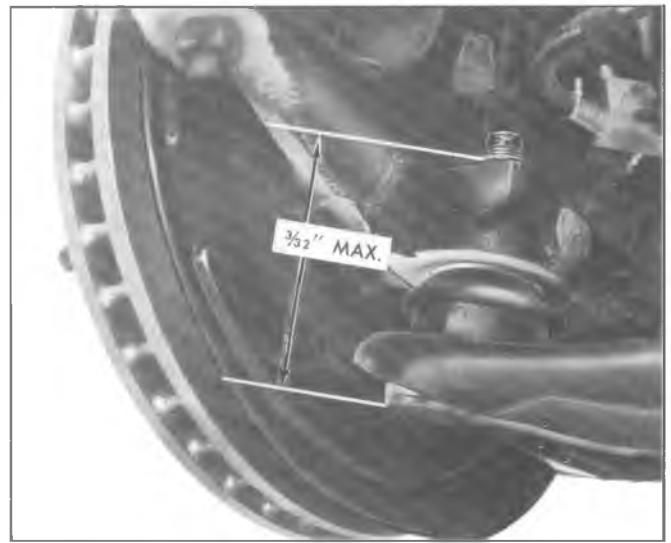

Fig. 14—Checking Lower Ball Joint
3. Move support to control arm to allow wheel hub and drum to hang free. Measure distance as in Step 2. If the difference in measurements exceeds .094" (3/32") for all models, ball joint is worn and should be replaced (fig. 14).